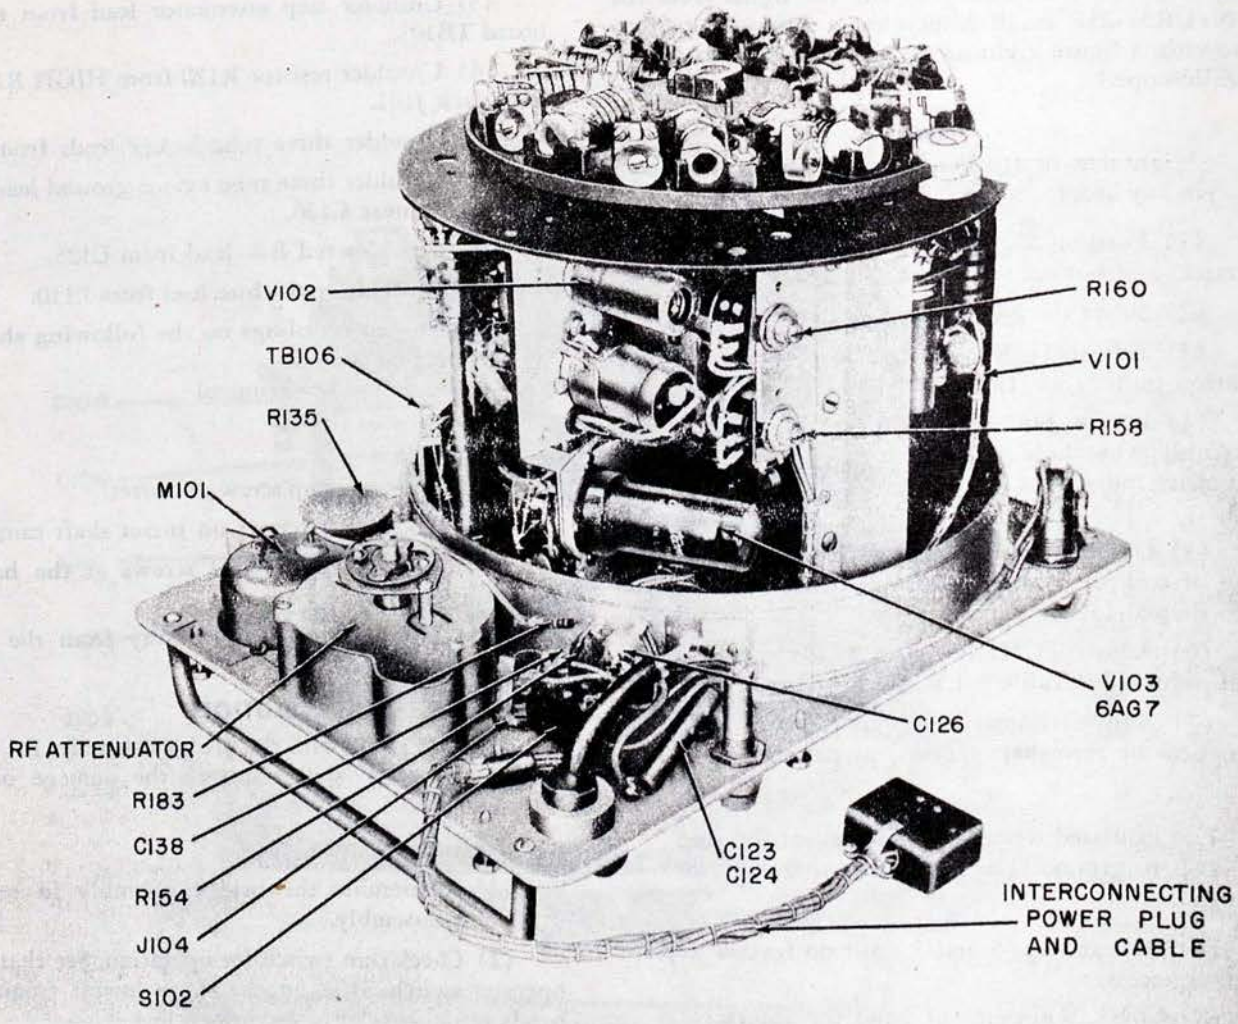

Figure 7-8. Bridge Assembly Components
(1) Reassemble the bridge assembly in reverse order of disassembly.
(2) Check cam switch for operation. See that cam operates switch S101 on the three lowest frequency bands (10 kilocycles to 220 kilocycles).
(3) When tightening the coupling on the frequency control shaft, follow the procedure in section 7-13, paragraphs *b* (4) through *b* (11).
18. RF METERING CALIBRATION. (See figure 7-8.)
19. PERCENT MODULATION METER CALIBRATION. (See figure 7-8.)